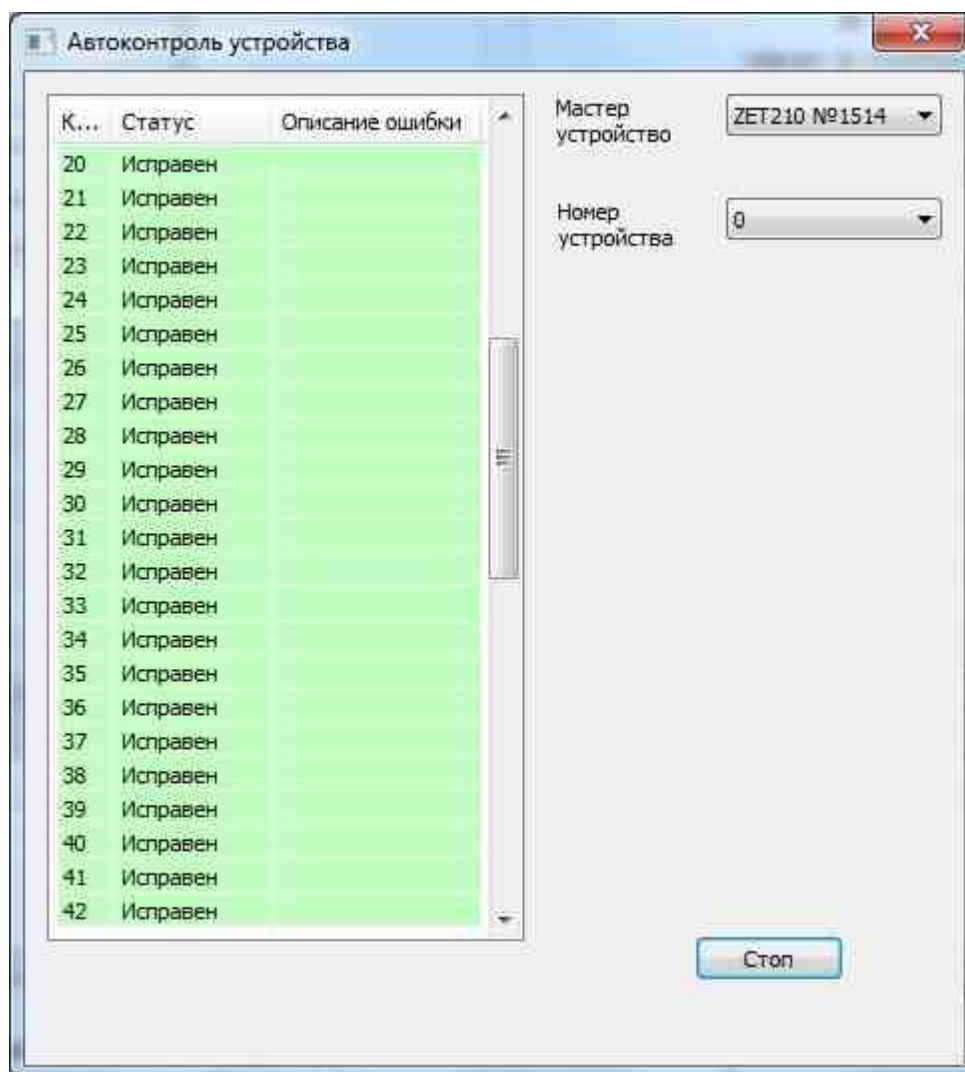

Fig. 3.22 "Device Auto Control" window
■ To start self-diagnostics, you must press the start button and wait for the end. If the device is working, all rows of the table in the left part of the "Device Auto Control" window will be highlighted in green (*Fig. 3.22*)